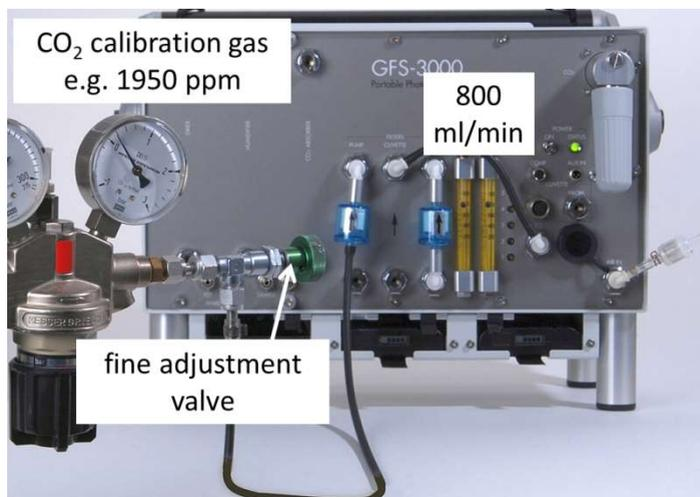

Fig. 59: System during absolute CO₂ span calibration.
- After the pump is off, disconnect the filter labeled PUMP. The CO₂ calibration gas must be connected to the upper connector labeled FILTERS PUMP. The filter from the spare kit should be used in the feed tube of the calibration gas. Carefully adjust the pressure reducer and fine adjustment valve of the tank so that the flow indicators are at 800 ml/min. Valve 5 can be used for additional fine adjustment of the total flow. Use valve 1 to equalize the flow between analyzer reference and sample until both indicators are at 800 ml/min (see Fig. 59).
The system can be setup as shown in Fig. 59 for the CO₂-span calibration, but with a nitrogen cylinder or technical air or even CO₂ calibration gas. Switch the system into MP mode and wait until H₂O_{abs} has stabilized on a low value. Then use the *Calibration/Maintenance* → *Analyzer(Control Unit)* → *H₂O zero EXPERT MODE* to calibrate the zero value of the H₂O analyzer. For saving pressurized gas, use silica gel to dry the system before using gas from the cylinder.